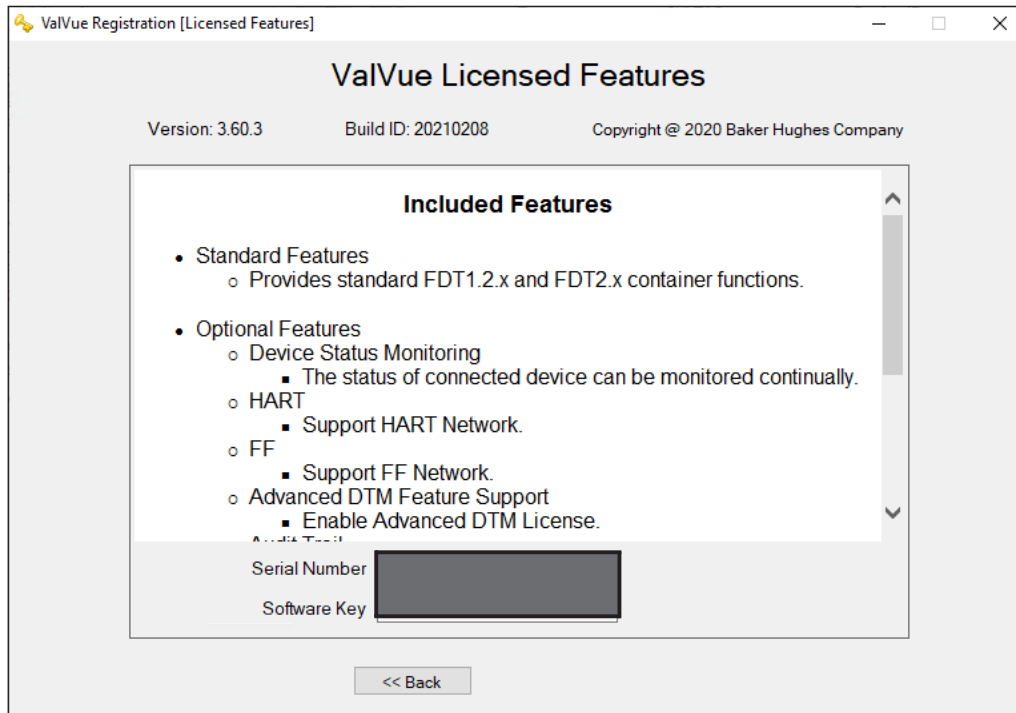

Figure 88 - Included Features
2. Click  and Figure 88 appears.